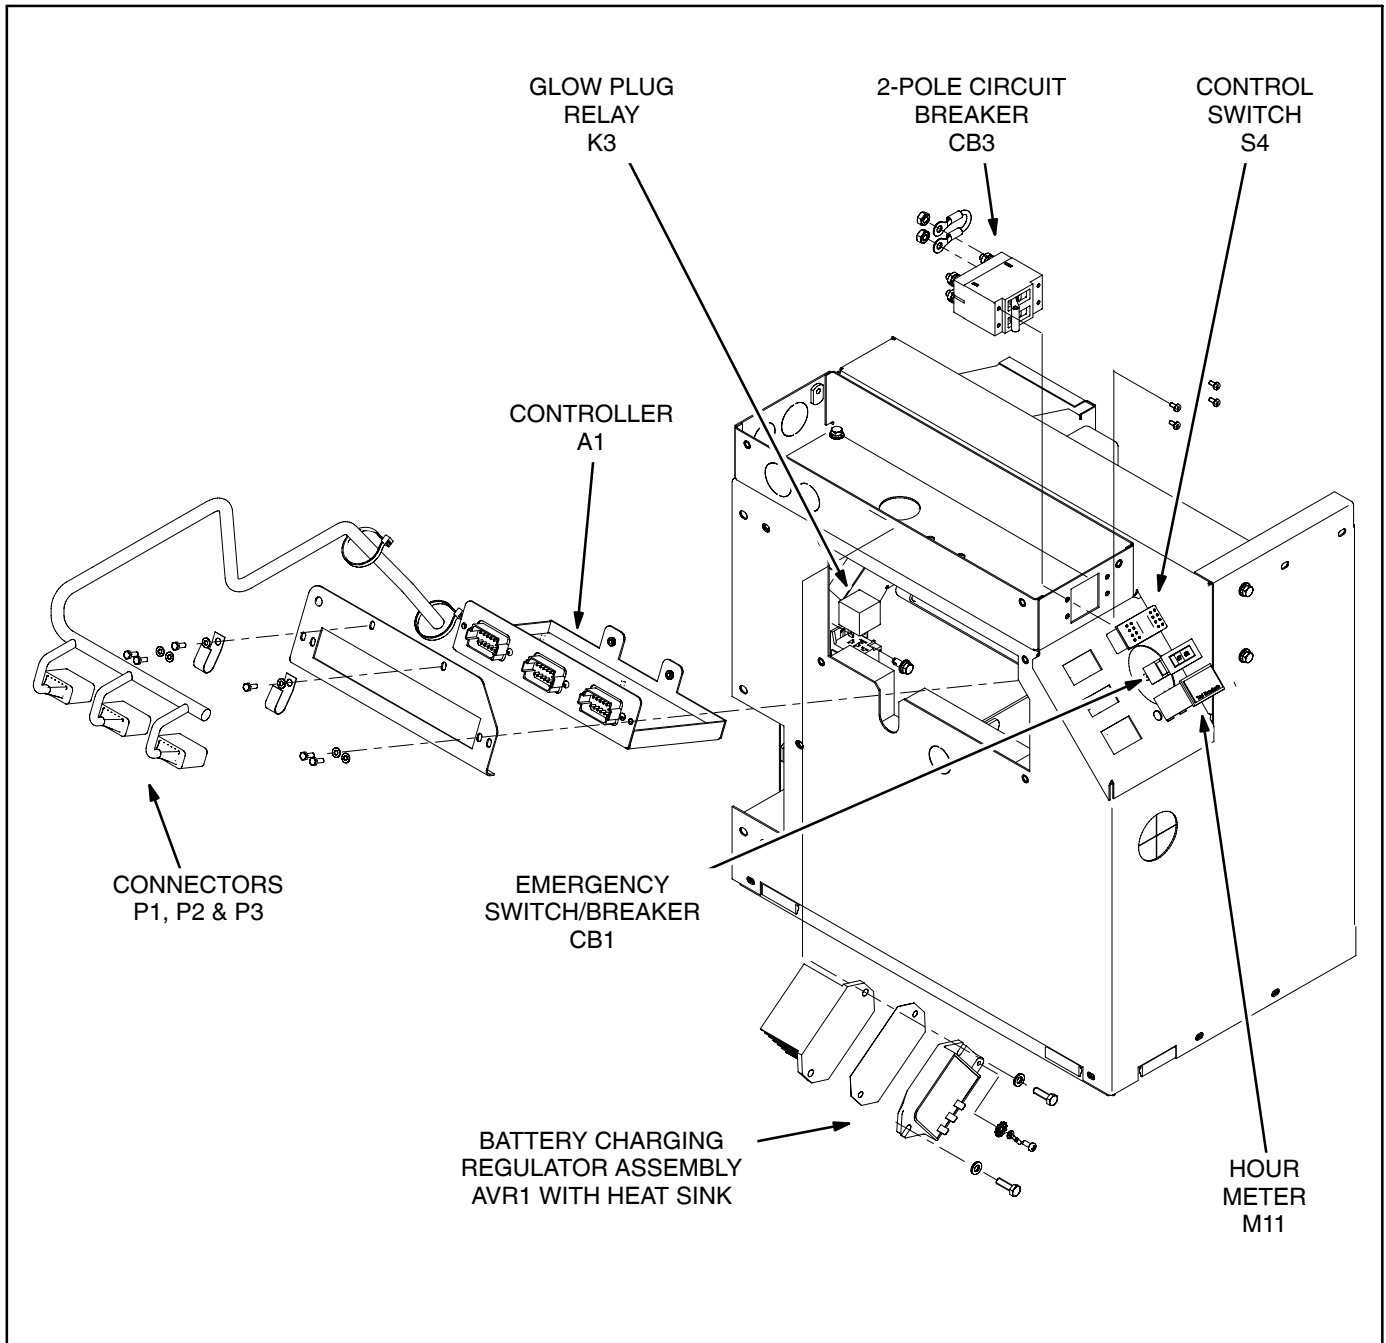

FIGURE 5-1. CONTROL SYSTEM COMPONENTS
Controller A1 is an integrated microcontroller-based engine and generator control (Figure 5-1). It provides all the control, monitoring and diagnostic
The controller is mounted in the second intake resonator chamber where it is cooled by the intake air and is accessible through the left access panel (Figure 5-1). It is easier to remove if all the screws securing the front / left side panel are loosened from the drip pan and other panels so that the panel can be shifted. Alternatively, remove the AC output box (Page 4-1).
The switch is mounted on the control panel (Figure 5-1). Unsnap the connector for access to its terminals. Replace the switch if **Start** does not close terminals 2 and 3, **Stop** does not close terminals 1 and 2, *Green* does not light when 12 VDC is applied across terminals 7 (-) and 8 (+), or *Amber* when 12 VDC is applied to terminals 7 (-) and 6 (+).
The switch/circuit breaker is mounted on the control panel (Figure 5-1). Disconnect the leads and check electrical continuity across the two terminals. Replace the circuit breaker if it does not reset or turn ON and OFF.
The hour meter is mounted on the control panel (Figure 5-1).
The line circuit breaker is mounted in the AC output box as shown (Figure 5-1). Disconnect all leads and check electrical continuity across each pole. Replace the circuit breaker if either pole does not reset or turn ON and OFF. Reconnect the generator and load wires properly (Page 6-6).
The glow plug relay is mounted on its wiring socket (Figure 5-1). Pull the relay out to test it. Apply 12 VDC across terminals 85–86. Replace the relay if the contacts across terminals 30–87 (NO) do not open and close.
Mounting: The regulator and heat sink are mounted on the air intake duct (Figure 5-1). The regulator is easier to remove if the AC outlet box is tilted out (secured by 4 screws inside the box).